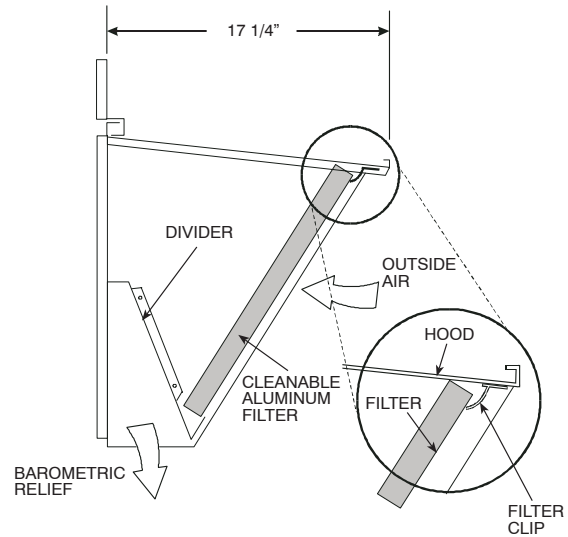

Fig. 26 – Filter Installation
7. Open the filter clips which are located underneath the hood top. Insert the aluminum filter into the bottom filter rack (hood divider). Push the filter into position past the open filter clips. Close the filter clips to lock the filter into place. (See Fig. 26.)